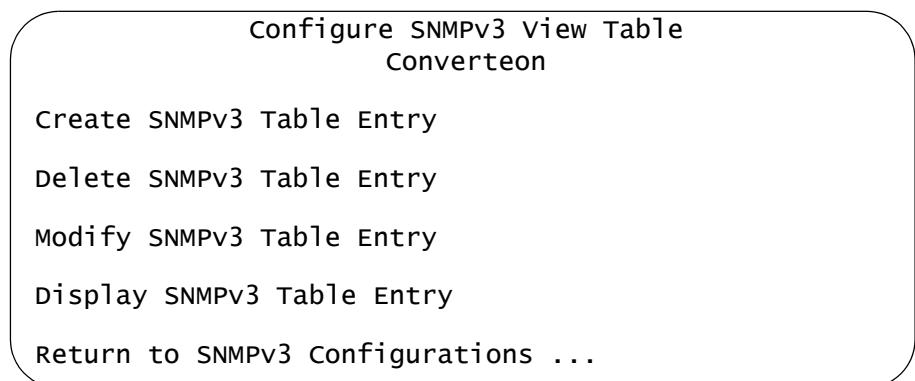

Figure 126. Configure SNMPv3 View Table Menu
- ❑ From the Main Menu, select **Configuration** -> **System Configuration** -> **System Parameters Configuration** -> **SNMPv3 Configurations** -> **Configure SNMPv3 View Table**. The Configure SNMPv3 View Table menu is shown in Figure 126.